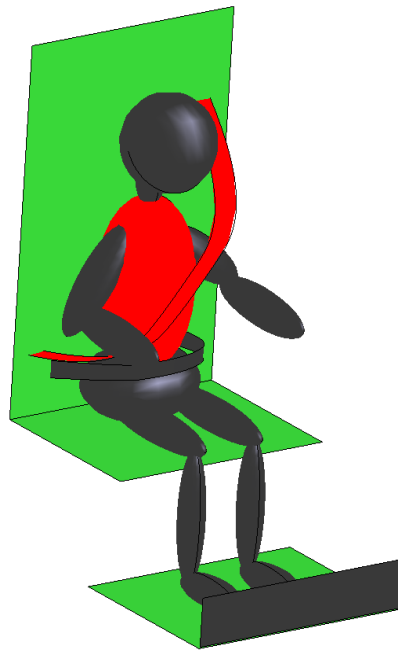

Figure 6. Involved surfaces in contact definition
4. In *Slave*, select Seat belt brest surface with the group edition  command (Figure 6)
5. In *Master*, select Trunk surface with the group edition command (Figure 6)